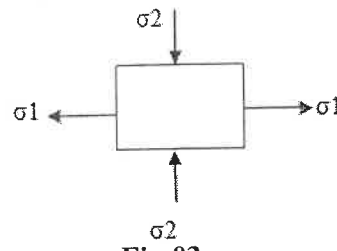

Fig.03
3. In an element subjected to tension $\sigma_1= 300$ Mpa(Tensile) and $\sigma_2=100$ Mpa (Compressive) as shown in Fig.03. below, max shear Stress is _____ MPa